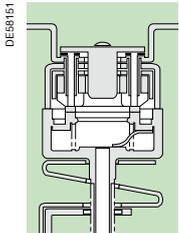

Fig. 1
- at the beginning of an opening cycle, the main contacts and the arcing contacts are closed (fig.1).